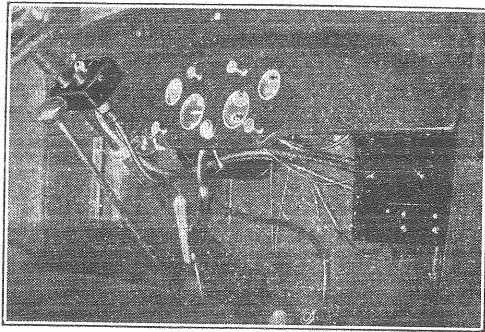
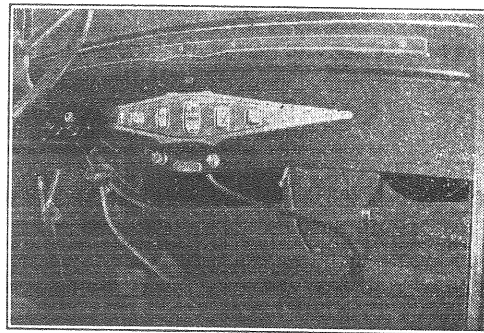

Figure 7—Usual Location of Receiver
Figure 8—Receiver Over Steering Column
**Location** The usual location for the receiver unit is on the right side of the engine compartment bulkhead directly under the dash. Figure 7 shows a typical installation. In some cars this will have to be on the opposite side directly over the steering column, Figure 8. It is important that the space selected have at least four inches clearance directly over the receiver, otherwise it cannot be removed from the mounting bracket. Interference with other equipment under the dash, and